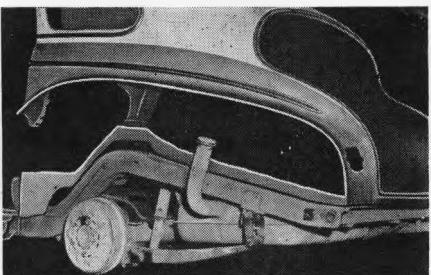
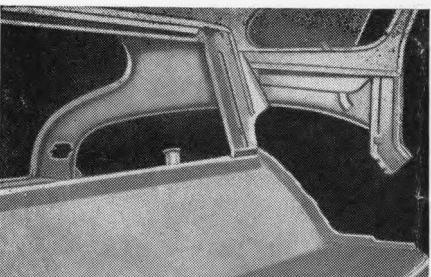

FIG. 7
FIG. 8
- Fig. 7 shows an exterior view of the body after the wheelhouse is removed and Fig. 8 an interior view.
All paint spray operations are now performed in "water wash" booths. An old style booth is shown in Figure 7 in which the air is cleaned by fans only. Figure 8 shows a "water wash" booth in which the absence of paint spray in the air and on the walls will be noted.